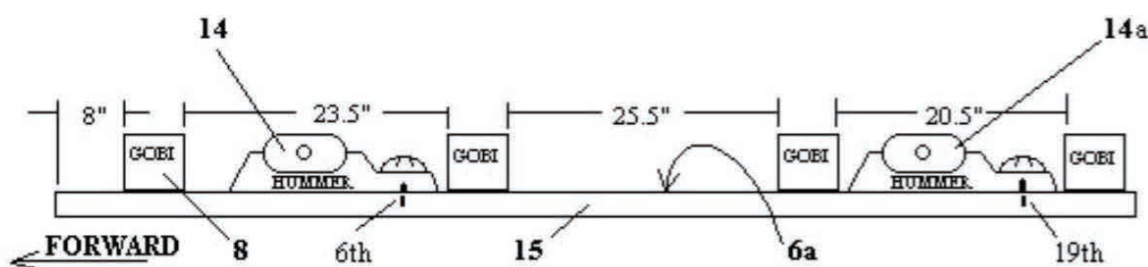

FIG. 1
3. Reposition the forward factory Cross bar Fig.1 #14 to the 6th indicator line on the side plastic roof track cover #15. Reposition the rearward factory cross bar Fig.1 #14a to the 19th indicator line on the side plastic roof track cover #15 both sides.
6. Place support bracket #8 in the direction shown in the illustration with small bolt holes faced down onto rubber washer #7 and thread bolts, lock washers and washers #9 found in Plastic Bag labeled #3 thru support bracket #8 and into "T" nut #6. **Make certain** "T" nuts are installed in vehicle roof track 6a correctly as shown in Fig. 3 page 4. Repeat this step to all #8 support brackets and keep spacing of #8 support brackets as shown in Fig. 1 page 4. Finger tighten bolts at this time.
7. After all #8 support brackets have been installed and spaced as shown in Fig. 1 page 4 place the GOBI rack #11 with welded-in brackets #11a on top of all #8 support brackets.